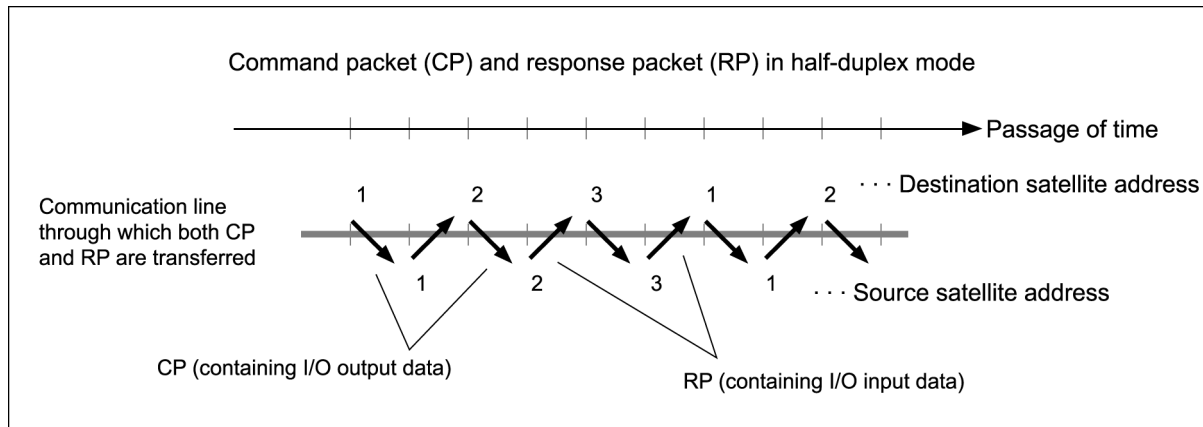
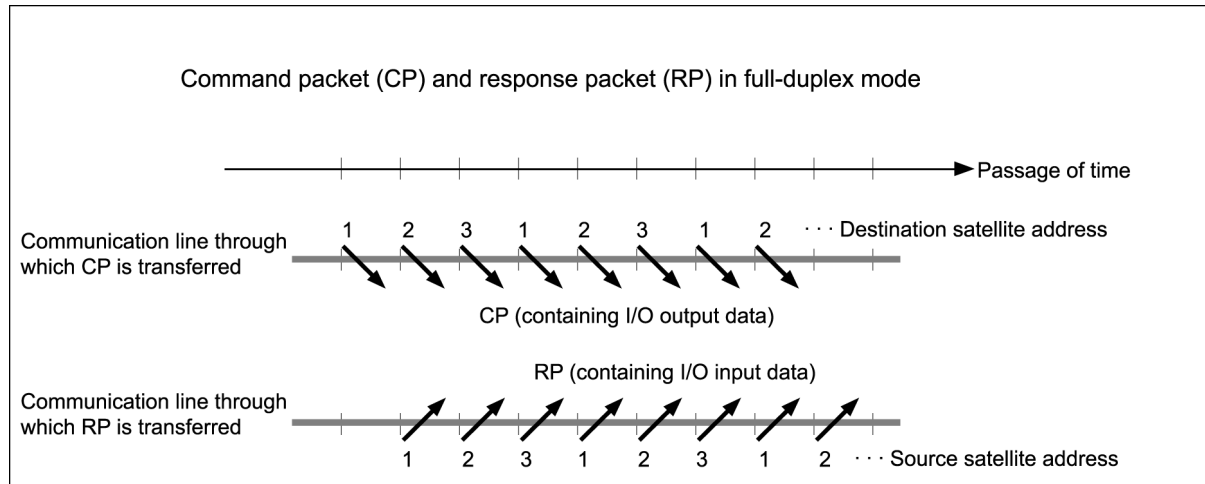

Fig. 6.1 Transfer of CP and RP in Half-duplex
Fig. 6.2 Transfer of CP and RP in Full-duplex
- In the HLS, automatic scanning between the center IC and satellite ICs is performed constantly by a serial pattern format command packet (CP) and response packet (RP) tailored specifically for the HLS.
- Figure 6.1 shows the transfer of the CP and RP in half-duplex mode on the network based on the passage of time. This indicates actual scanning in the HLS. The details are explained below.
- (1) To operate the HLS, set (write) the **Final Satellite (FS)** scanning value to the given register in the center IC from the user system. Figure 6.1 shows an example of starting the operation of the HLS by writing "3" (03H) as the FS to the center IC.
- (2) The center IC sequentially sends the CP from "SA = 1" to "SA = FS" to the satellite IC at regular intervals, that are repeated automatically. This CP contains data which is in the address corresponding to the SA that sends the CP in the center IC (memory).
- (3) When the satellite IC receives the CP sent to its own SA, it updates the state of the output port based on this CP, and immediately returns the RP containing the state of the input port as data to the center IC. The CP and RP appear regularly one after the other on the network as shown in Figure 6.1.
- (4) When the center IC receives the RP from the satellite IC, it updates the data in the center IC (memory) for the address corresponding to the SA that sent the RP to the latest received data.
- (5) Automatically repeated scanning and updating causes the bit state in memory controlled by the center IC to be the same as the I/O state of the remote terminal. In this operation, both constancy and real-timeness are assured.
- Figure 6.2 shows the transfer of the CP and RP in the full-duplex mode on the network based on the passage of time. In full-duplex mode, each CP and RP propagates through a dedicated communication line, which enables the center IC to receive a RP while sending the next CP. Therefore, the CP sending interval is shortened, resulting in a faster scan time.